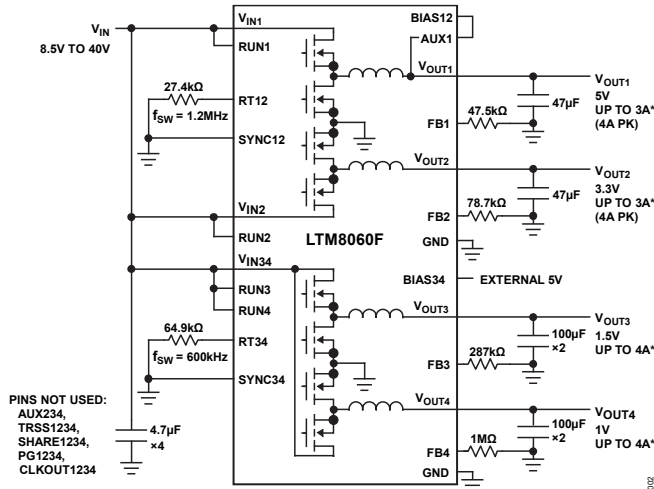

Figure 2. Quad 3A (4A Peak) Output from 8.5V to 40V Input
* The output current capability (transient peak or continuous) in *Figure 2* is subject to environmental factors such as ambient temperature, airflow, or other cooling techniques. For different V_{IN} , V_{OUT} , and T_A conditions, see the notes section (Note 3) of the *Electrical Characteristics* table and the derating curves in the *Applications Information* section.